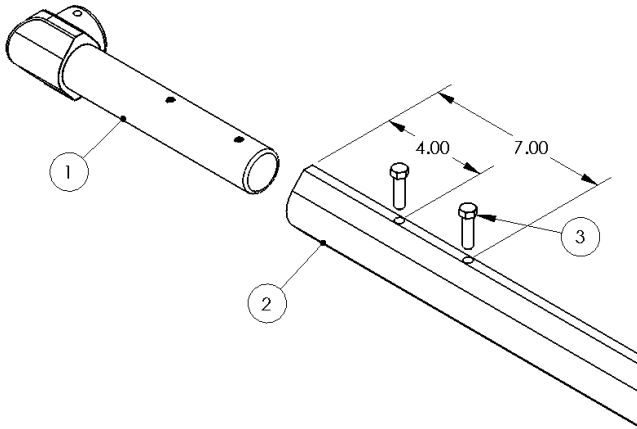

Figure 3.6
The lower casting (1) has two holes that have a 5/16"-18 thread. These holes are 4" and 7" from the face where the casting contacts the arm (2). Double check those measurements and drill two holes using a 21/64" (or 11/32") drill bit 4" and 7" from where the arm will contact the casting. Then line holes up and use supplied 5/16"-18 x 1-1/4" hex head bolts (3) to secure the casting and arm together per Figure 3.6. Use two bolts per side.